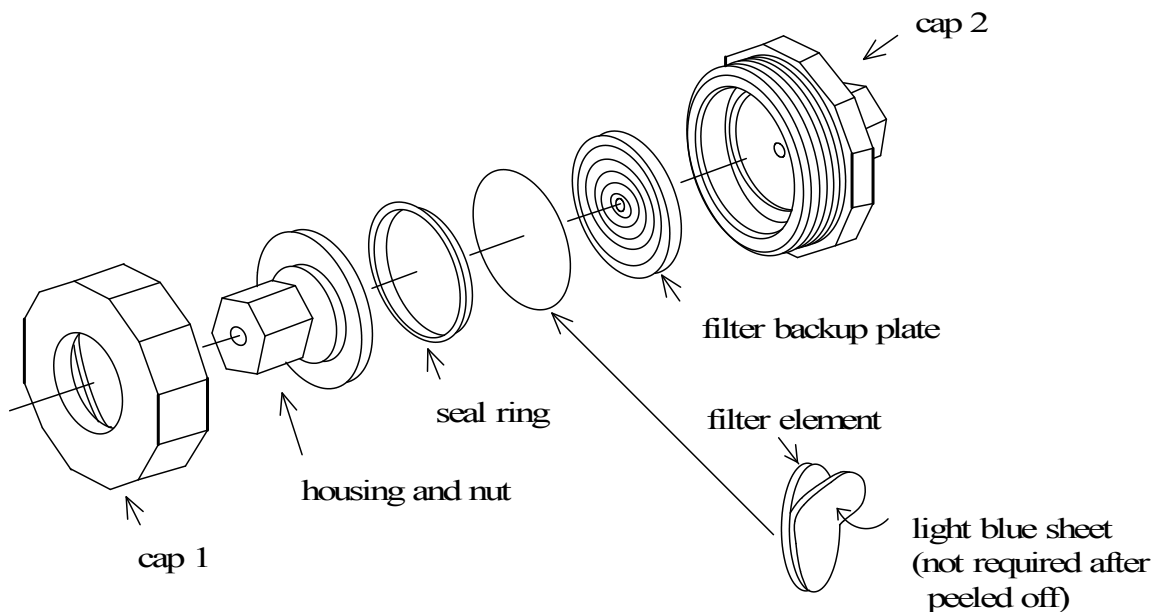

Figure- 25 Replacing of filter element (EG-3000F)
- (1) If remove cap A and cap B by rotating it toward direction (CCW) of arrows each other, they can be removed.
- (2) Replace the used filter element with new one after the light blue protection sheet will be peeled off, referring the following Figure-25 below. As the protection sheet is only used for protecting this filter, throw it away.